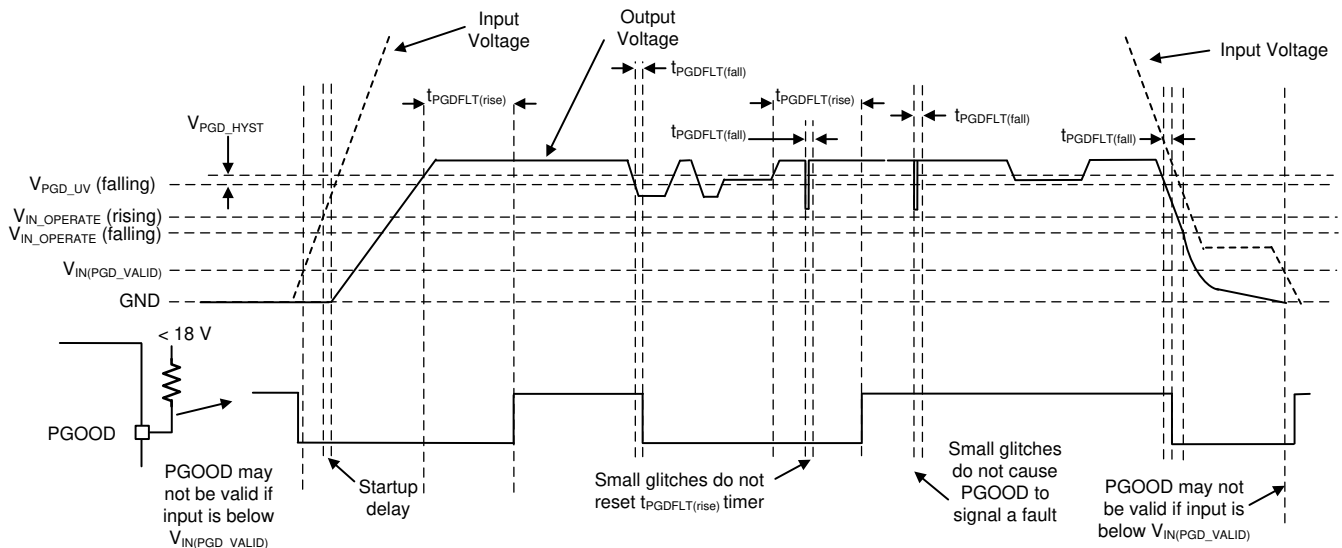

图 7-5. PGOOD Timing Diagram (Excludes OV Events)
The PGOOD function is implemented to replace a discrete reset device, reducing BOM count and cost. The PGOOD voltage goes low when the feedback (FB) voltage is outside of the specified PGOOD thresholds (see 图 6-8). This can occur during current limit and thermal shutdown, as well as when disabled and during normal start-up. A glitch filter prevents false flag operation for short excursions of the output voltage, such as during line and load transients. Output voltage excursions that are shorter than $t_{PGDFLT(fall)}$ do not trip the PGOOD flag. Refer to 图 7-5 to best understand PGOOD operation.